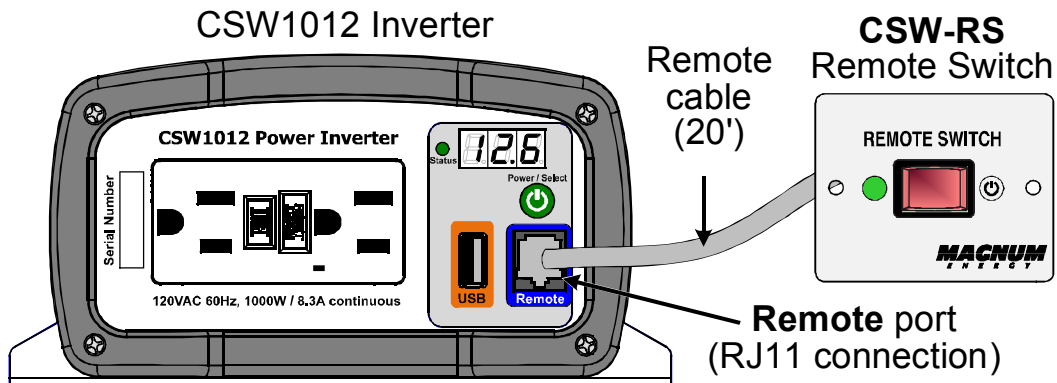

Figure 1, Remote Cable Connection
The remote cable is hardwired to the back of the remote switch and is a 20-foot, 4-conductor cable (wired like a normal telephone type cable). This cable connects to the **Remote** port located on the front of the inverter, as shown in Figure 1.
4. After ensuring the inverter is OFF, plug the remote cable into the Remote port on the front of the inverter as shown in Figure 1.